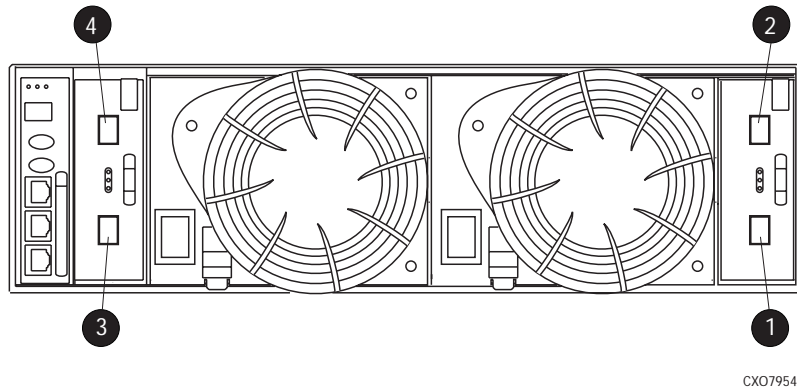

Figure 60 Transceiver element numbering
- *en.* is the two-character transceiver element number (see Figure 60)